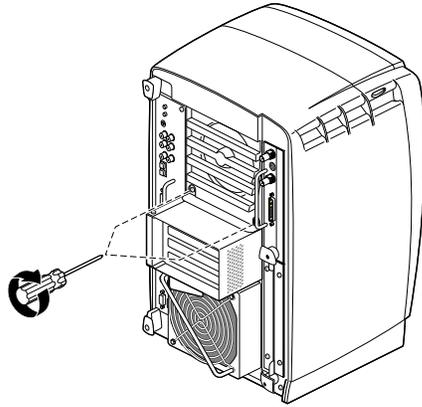

Figure 4-51 Tightening the PCI Screws
7. Tighten the captive screws that secure the PCI module to the workstation, as shown in Figure 4-51.